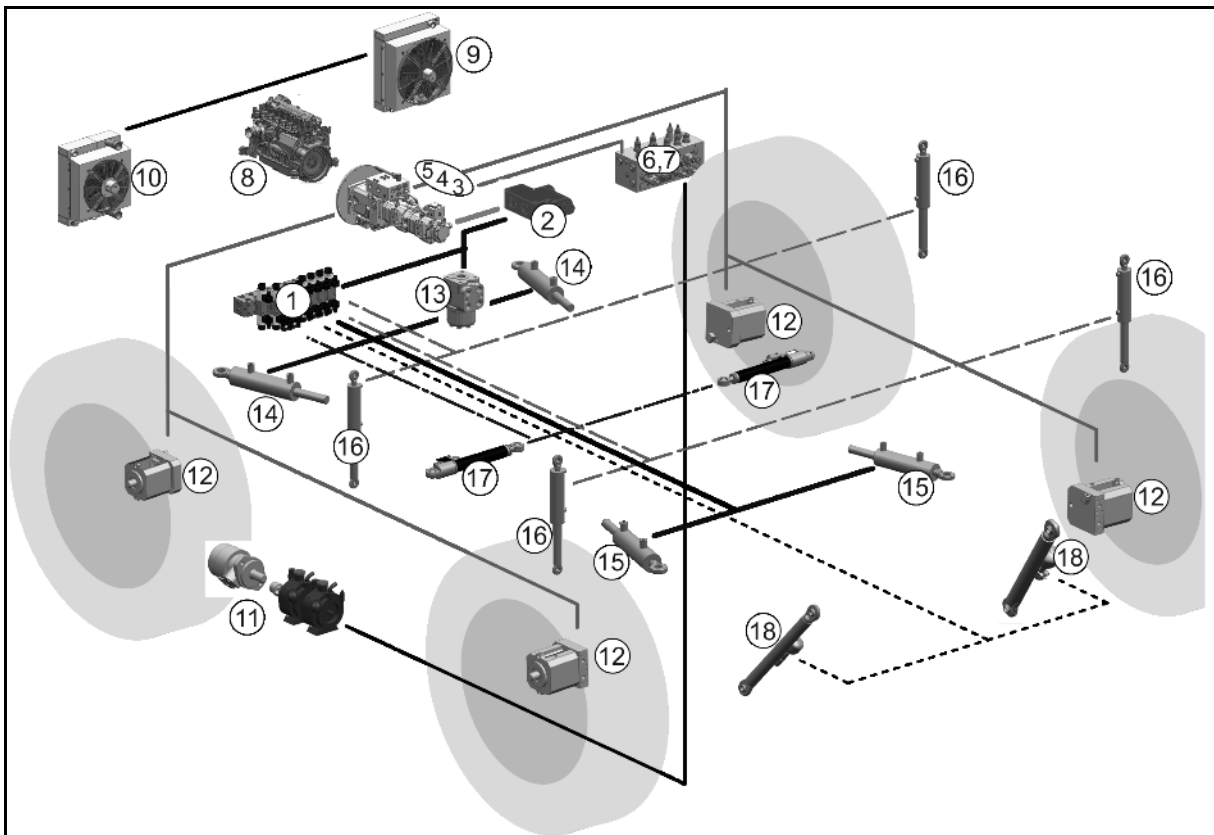

Fig. 26
- Open the shut-off valves on the hydraulic block (Fig. 26/1).
- Close the shut-off valve (Fig. 26/2):